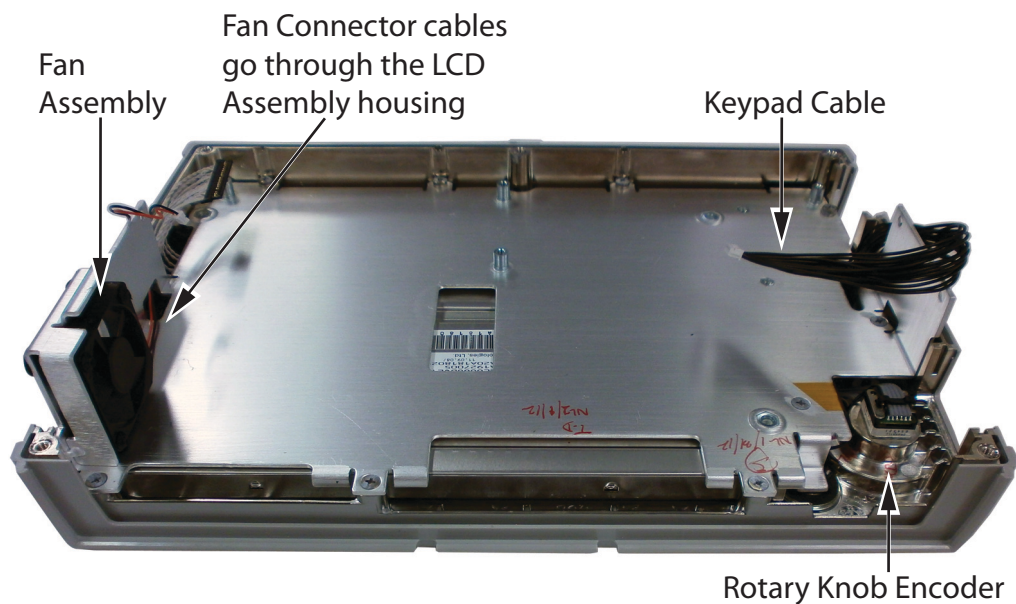

Figure 5-11. Front Panel Showing Fan Assembly
3. The fan is attached to the LCD housing by either three screws or three rubber mounts. If screws are used, remove the screws to remove the fan and re-use the existing screws to secure the replacement fan. If rubber mounts are used, cut the rubber mounts in order to remove the fan, and new rubber mounts will be included with the replacement fan assembly. Refer to (Figure 5-11).